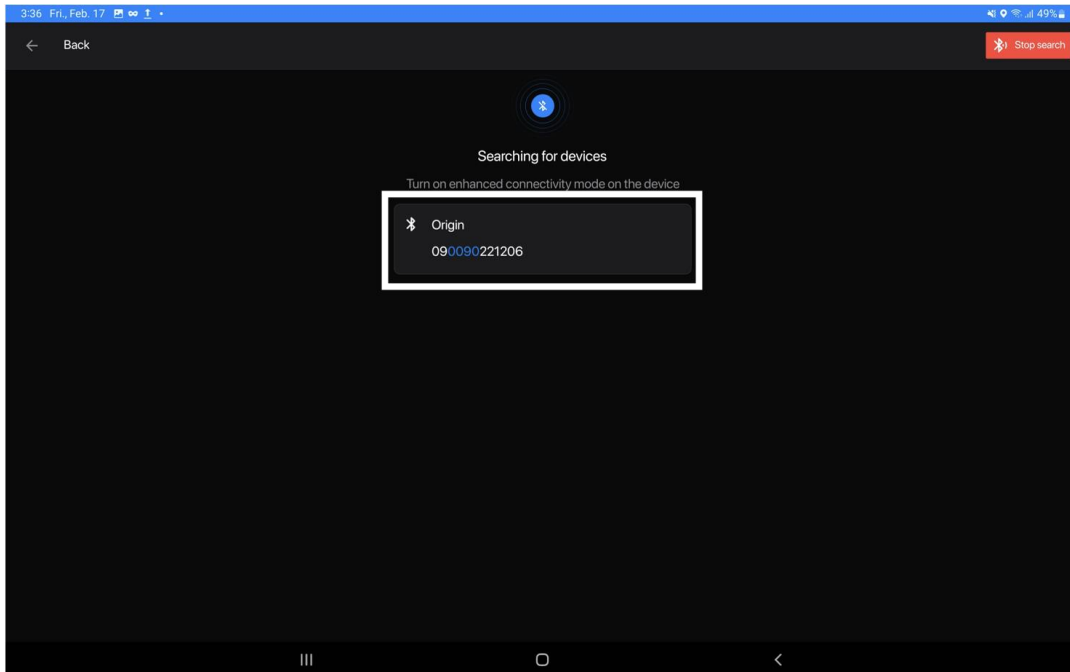

Figure 35: Device Pairing Screen – Bluetooth
**Step 2** – On the pairing screen, you will be prompted to pair *Origin™* to *Stream™* via Bluetooth pairing or by scanning the QR code at the back of *Origin™*. A list of nearby operational *Origin™* device(s) will appear on the device pairing screen (**Figure 35**). Select the appropriate device serial number that will be paired to the respective patient.